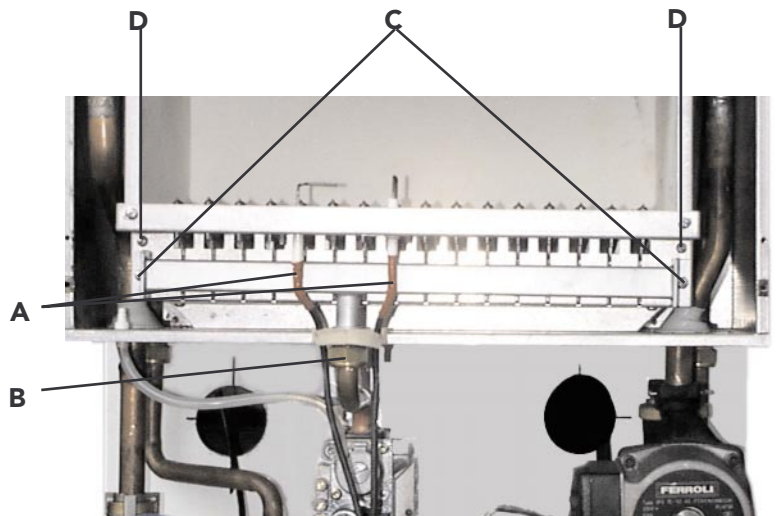

Fig. 29
7.09 Removal of burner (fig. 29)
7.10 Injectors (fig. 29)